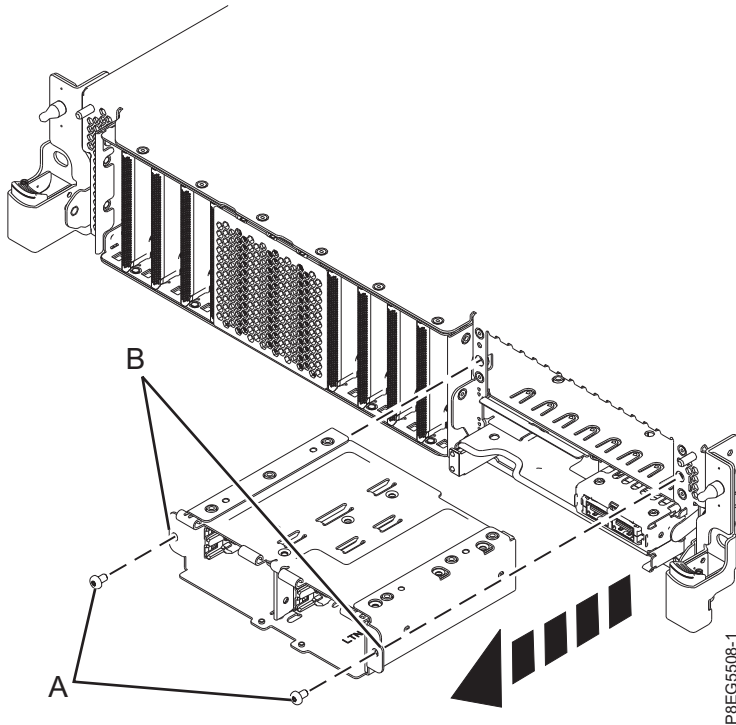

Figure 1. Pull SSD cage out partially
11. If your system has the expanded function disk drive backplane, you must partially remove the SSD cage. Remove screws (A) from the SSD cage. Leave the SSDs fully inserted in the cage. Grasp the mounting flanges (B) and slide the SSD cage out far enough to prevent the pins on the back of the cage from interfering with the removal of the disk drive backplane. See Figure 1 on page 4.